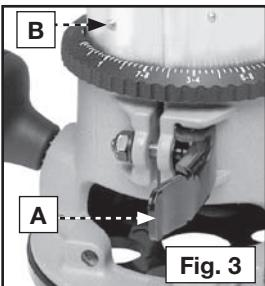
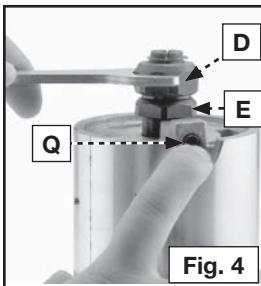

Fig. 3
Fig. 4
- (a) Open the clamp (A) Fig. 3.
- (b) While holding the base, turn the power unit counter-clockwise until the lower pin (B) in the motor housing is disengaged from the groove in the base.
4. Press the spindle lock (Q) Fig. 4 while turning the chuck (E) Fig. 4 until it locks into place.
5. Firmly tighten the collet nut (D) Fig. 4 with the provided wrench.